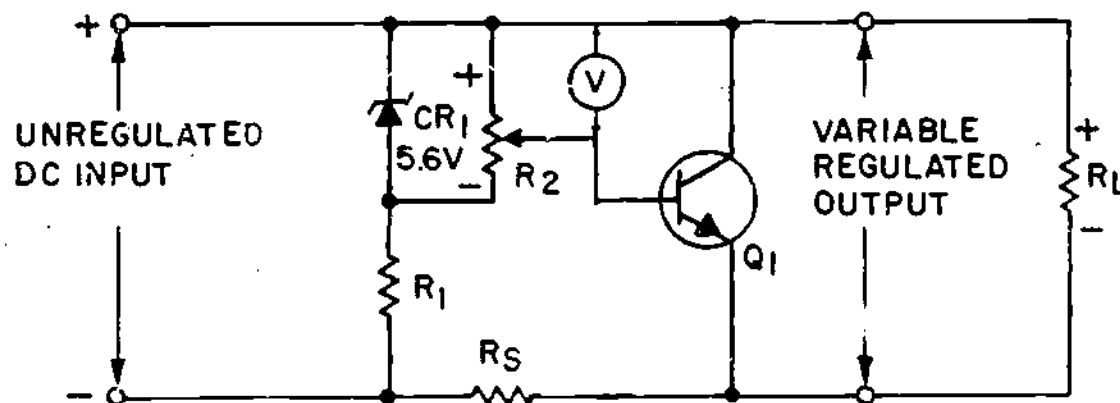

FIGURE 16
24. Refer to the shunt voltage regulator schematic in Figure 16. Notice particularly that a potentiometer has been incorporated into the circuit. The pot is designated as R2.